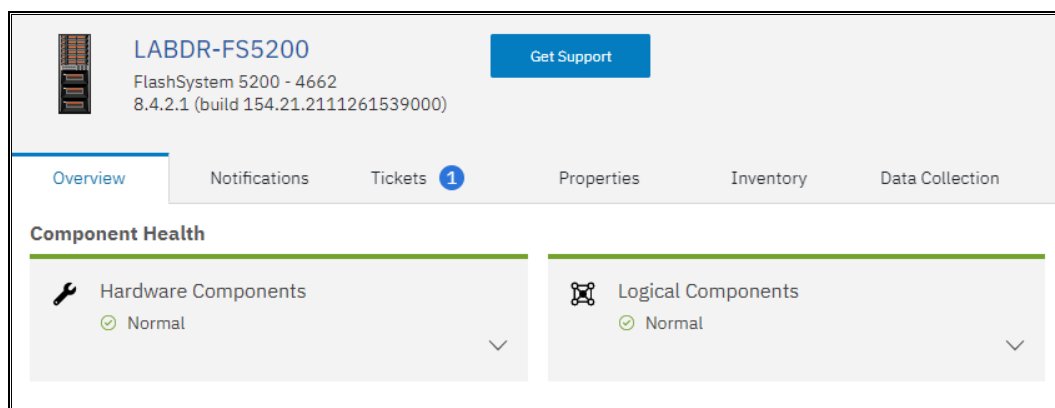

Figure 11-19 IBM Storage Insights Get Support option
1. In the IBM Storage Insights dashboard, choose the system for which you want to create the ticket. Then, select **Get Support** (see Figure 11-19).